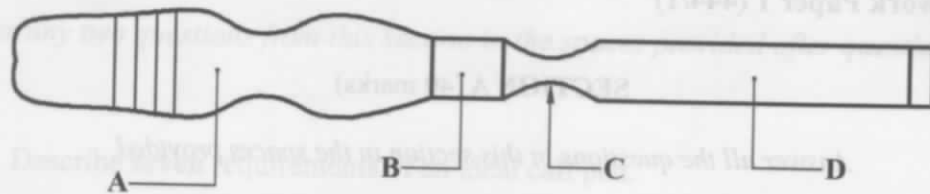

Figure 2
7. Figure 2 shows a hand tool.